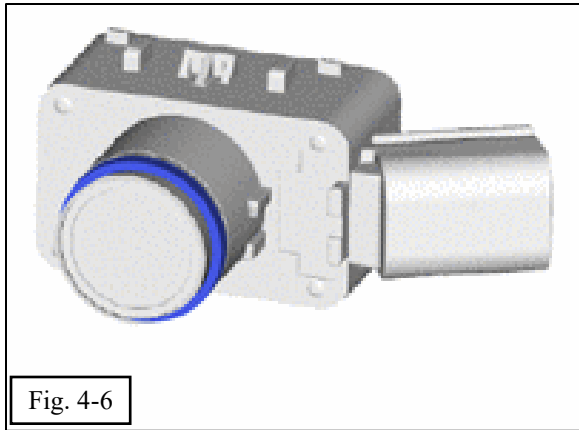

Fig. 4-6
- ⚠ (d) Inspect each of the 4 provided Parking Sonars to ensure that the cushions are uniformly seated around the part (blue portion of Fig. 4-6).
**NOTE: Fig. 4-6 shows RH, mirror Parking Sonar orientation about vehicle centerline for LH side.**